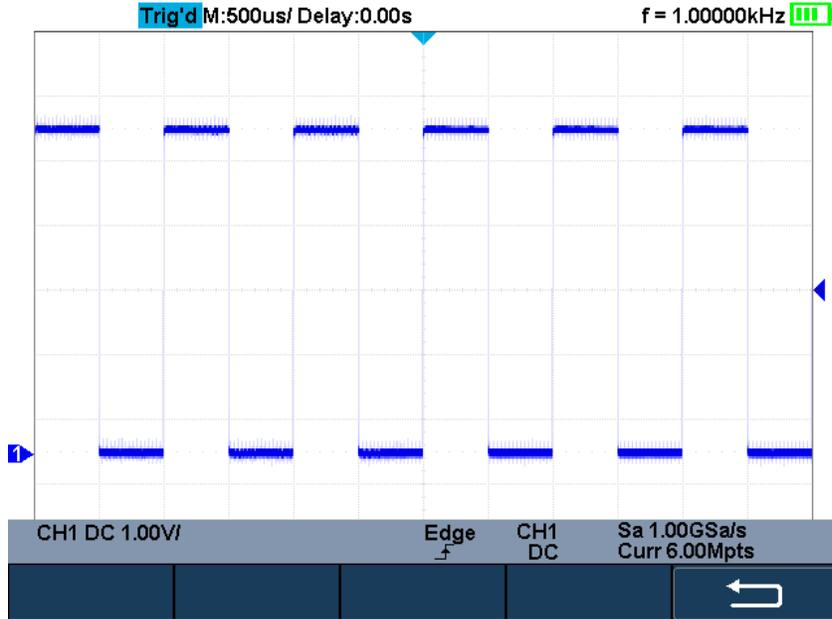

Figure 8 Function Inspection
5. Observe the waveform on the display. If the probe is properly compensated, the display will show a square waveform as shown in Figure 8: